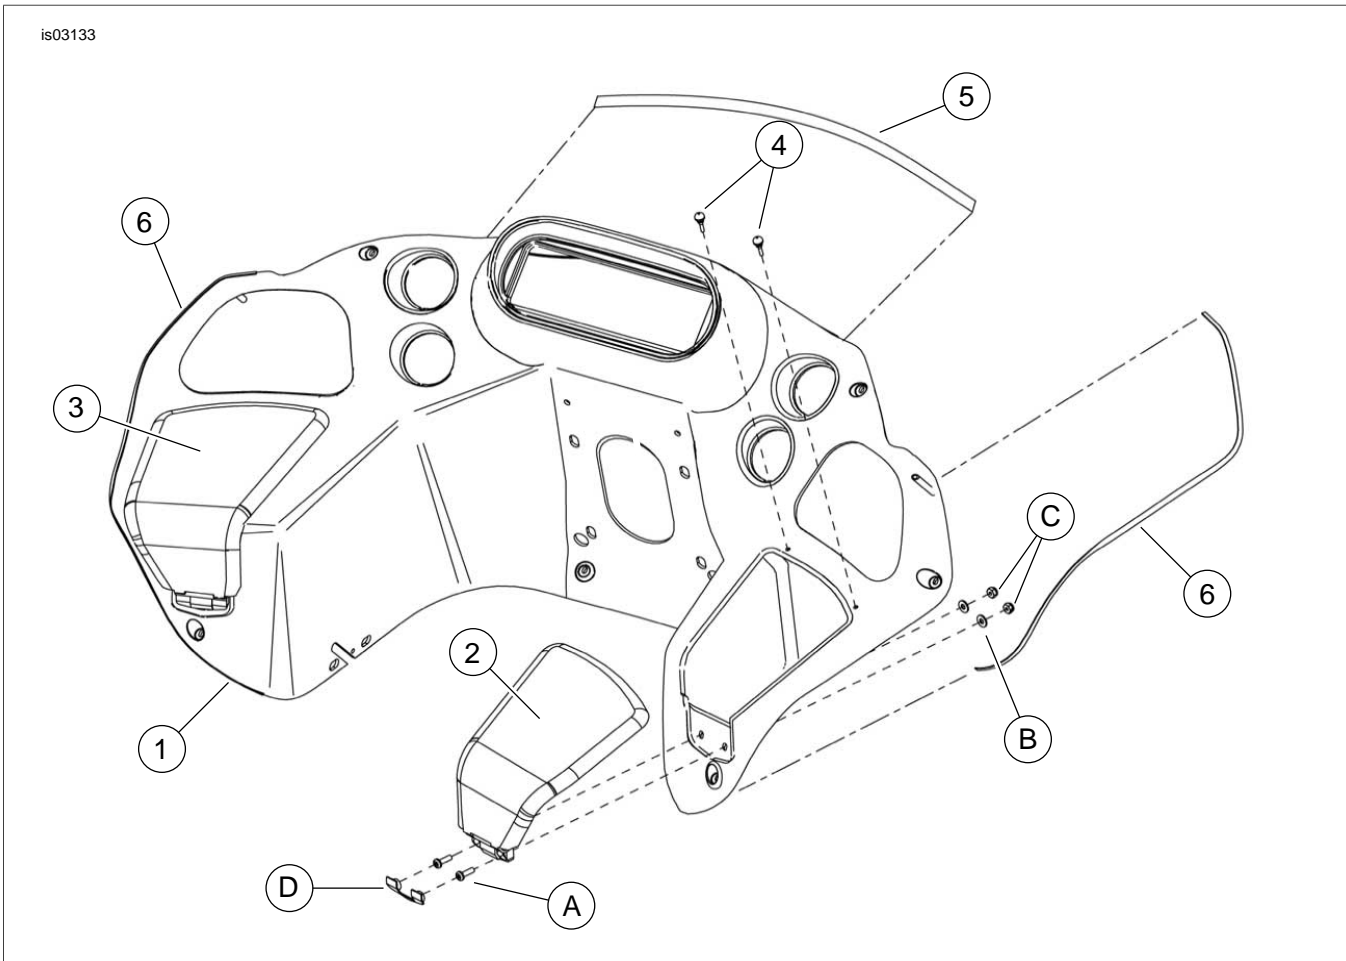

Figure 1. Service Parts: Road Glide Inner Fairing
See Figure 1. When removing the inner fairing components, retain items A through E for installation of the new inner fairing.
See Figure 1 and Table 1.
5. See Figure 1. Install the right hand storage box cover (2) and left hand storage box cover (3) on the new inner fairing using the saved hardware.
6. Clean outside edge surface of the new inner fairing (1) with a 50/50 isopropyl alcohol/water solution in preparation for installing the rubber trim molding. Allow surface to dry thoroughly.
7. Test the correct placement of side trim rubber molding (6), with the long side of the strip channel of the inside of the fairing edge, before installation.
8. Test the correct placement of top trim rubber molding (5).